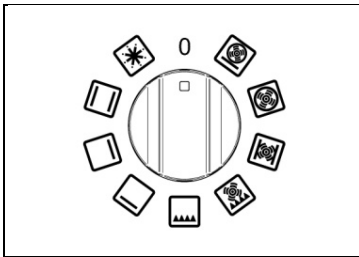
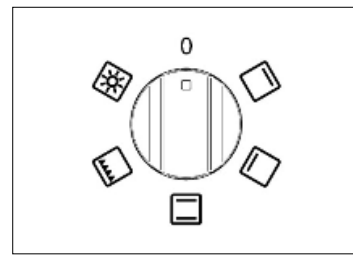

Fig 27A
Fig 28A
**1** Turn the function selector knob (Fig.27A-27B and Fig.28A-28B) clockwise to the desired function.